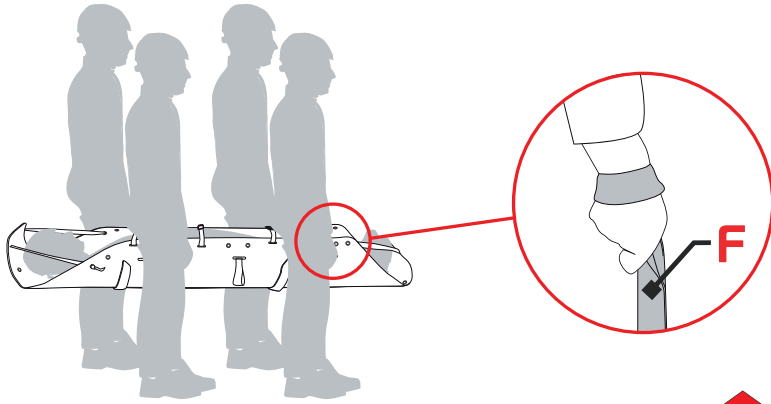
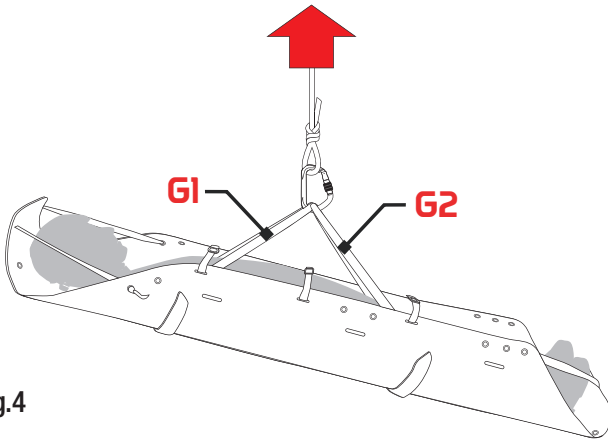
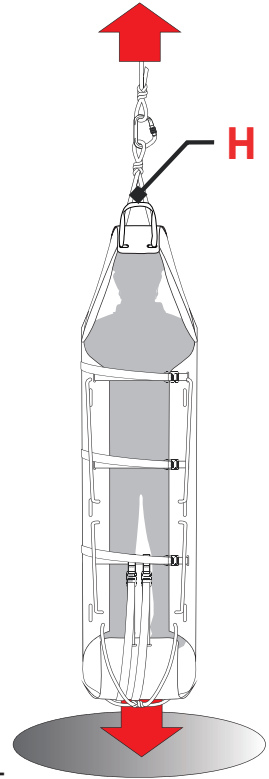

Fig.3
Fig.4
Fig.5
Transport with the handles (F) (fig. 3)	150 kg
Lifting and lowering with rescue devices (fig. 4) with suspensions (G)
Lowering and rescue in space (fig. 5) with rope (H)
Lifting and lowering using helicopters (fig. 4) with suspensions (G)	100 kg
The “**ROLLY**” is suitable for lifting and transporting the patient by means of the side handles (fig. 3), the hanging kit (fig. 4), and for lifting/lowering it and retrieving it vertically using a static rope (fig. 5).